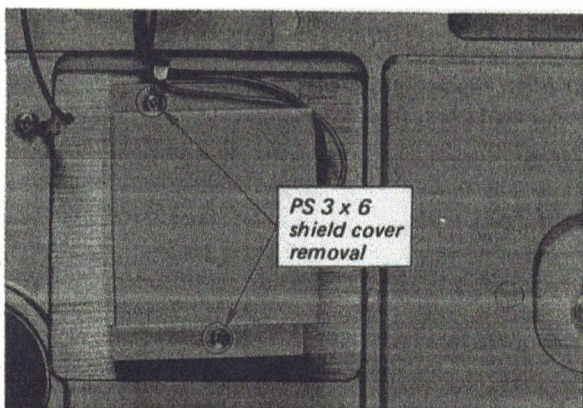

Fig. 2-12. Shield cover removal
3. Remove the two self-tapping screws (PS 3 x 6) securing the shield cover over the terminal strip as shown in Fig. 2-12.